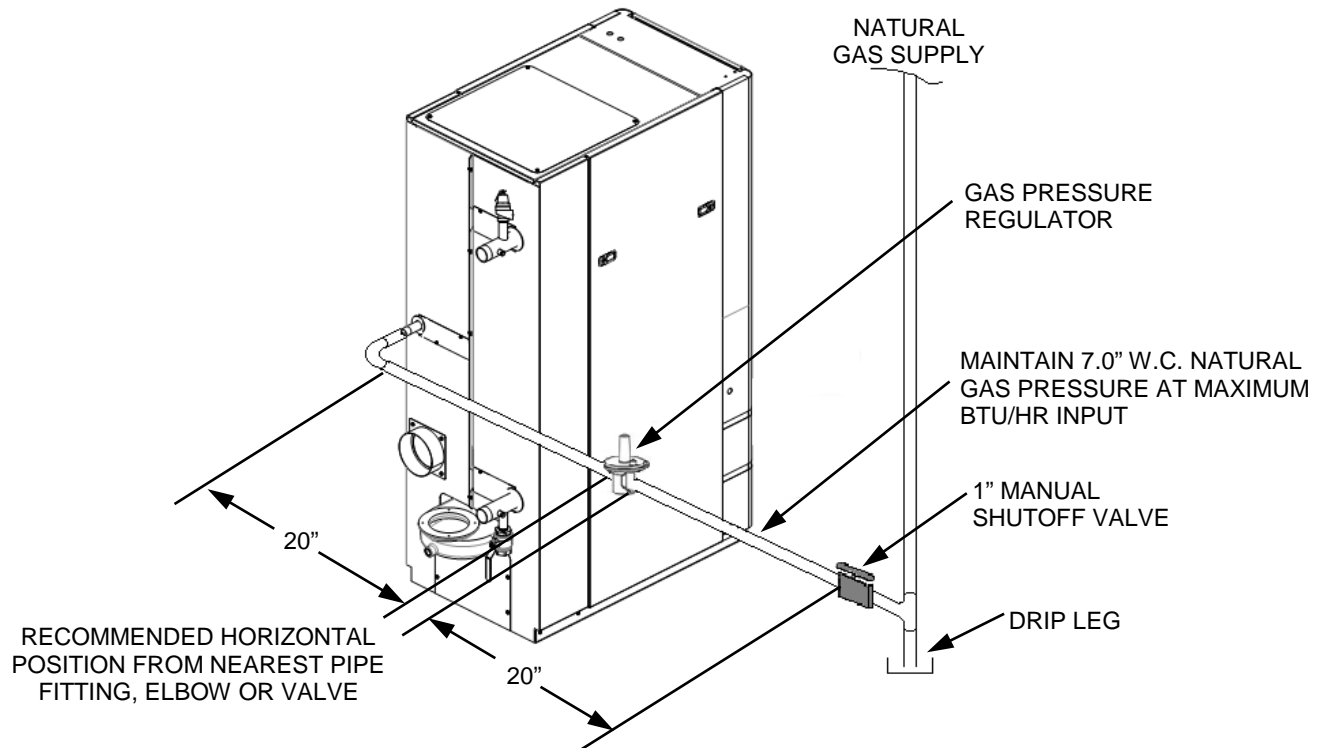

Figure 1: Single Heater Pipe Connections – Innovation Shown
An external isolation valve must be installed at each Innovation and Recon heater, as shown in Figure 1. This isolation valve is supplied with the heater.
- When installed horizontally the required distance between the gas pressure regulator and the nearest pipe fitting, elbow or valve is 20 inches (see Figure 1).